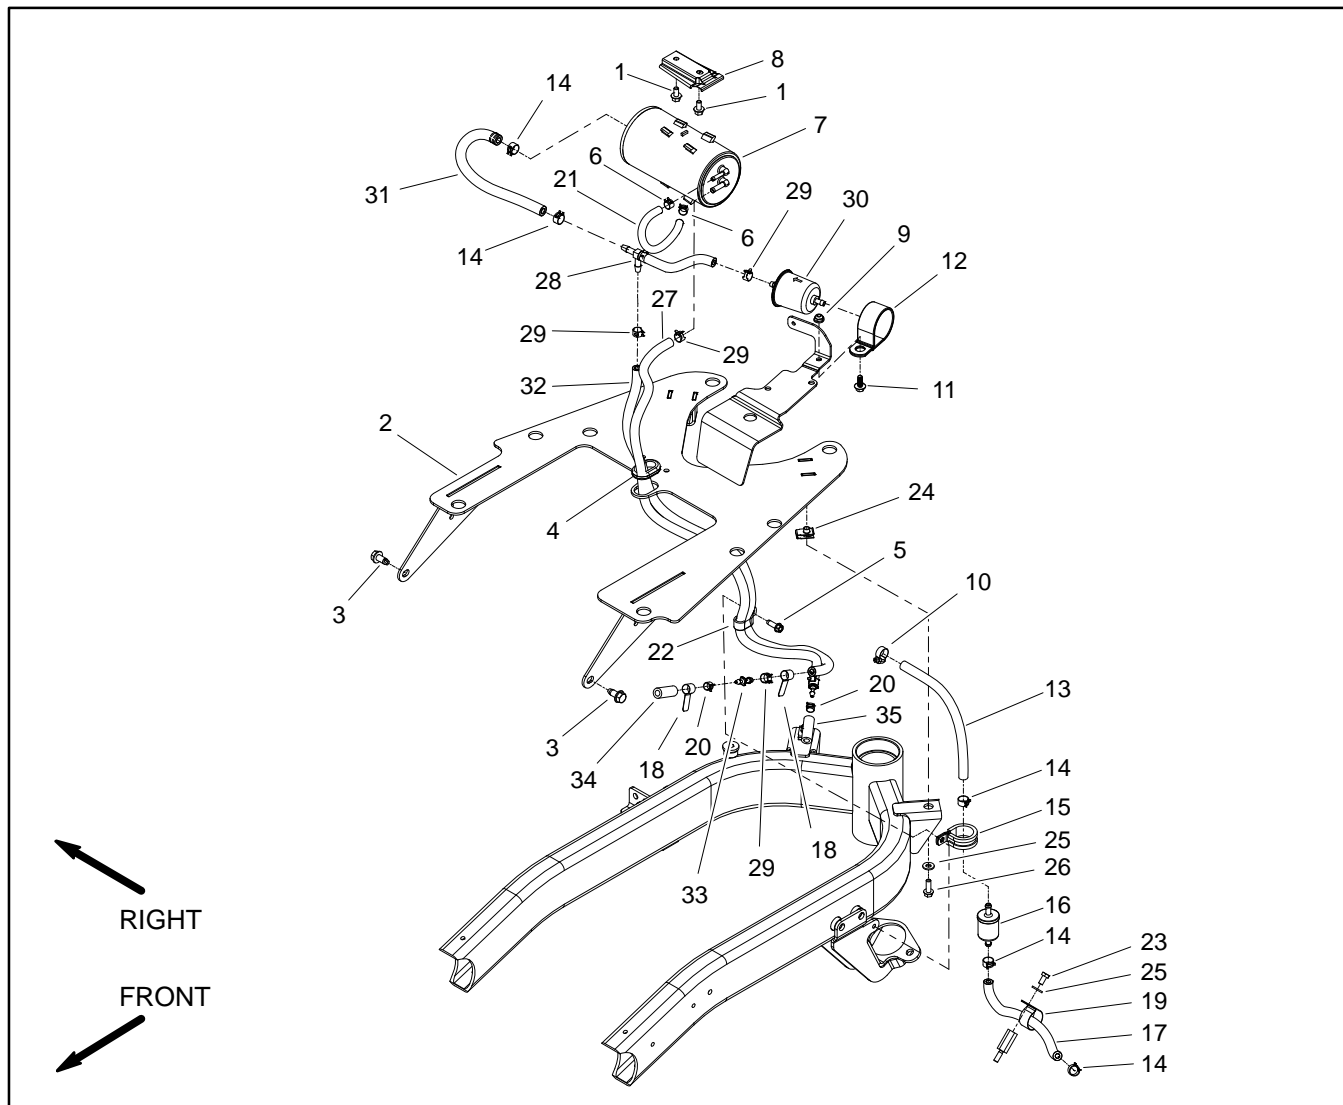

Figure 5
## Removal (Fig. 5)
4. Remove components as needed using Figure 5 as a guide.
A. If either purge hose assembly (item 27) or tee hose assembly (item 28) is to be removed, label ends of hose for assembly purposes. Both of these assemblies include a check valve so direction of installation is important for correct operation of the evaporative control system. The check valve is not available as a separate part so hose assembly replacement is necessary if the check valve or hose is faulty. To ensure proper operation of check valves, do not attempt to remove them from the hose assembly.
## Installation (Fig. 5)
1. Install all removed components using Figure 5 as a guide.
- A. If either purge hose assembly (item 27) or tee hose assembly (item 28) was removed, make sure that installation is correct.